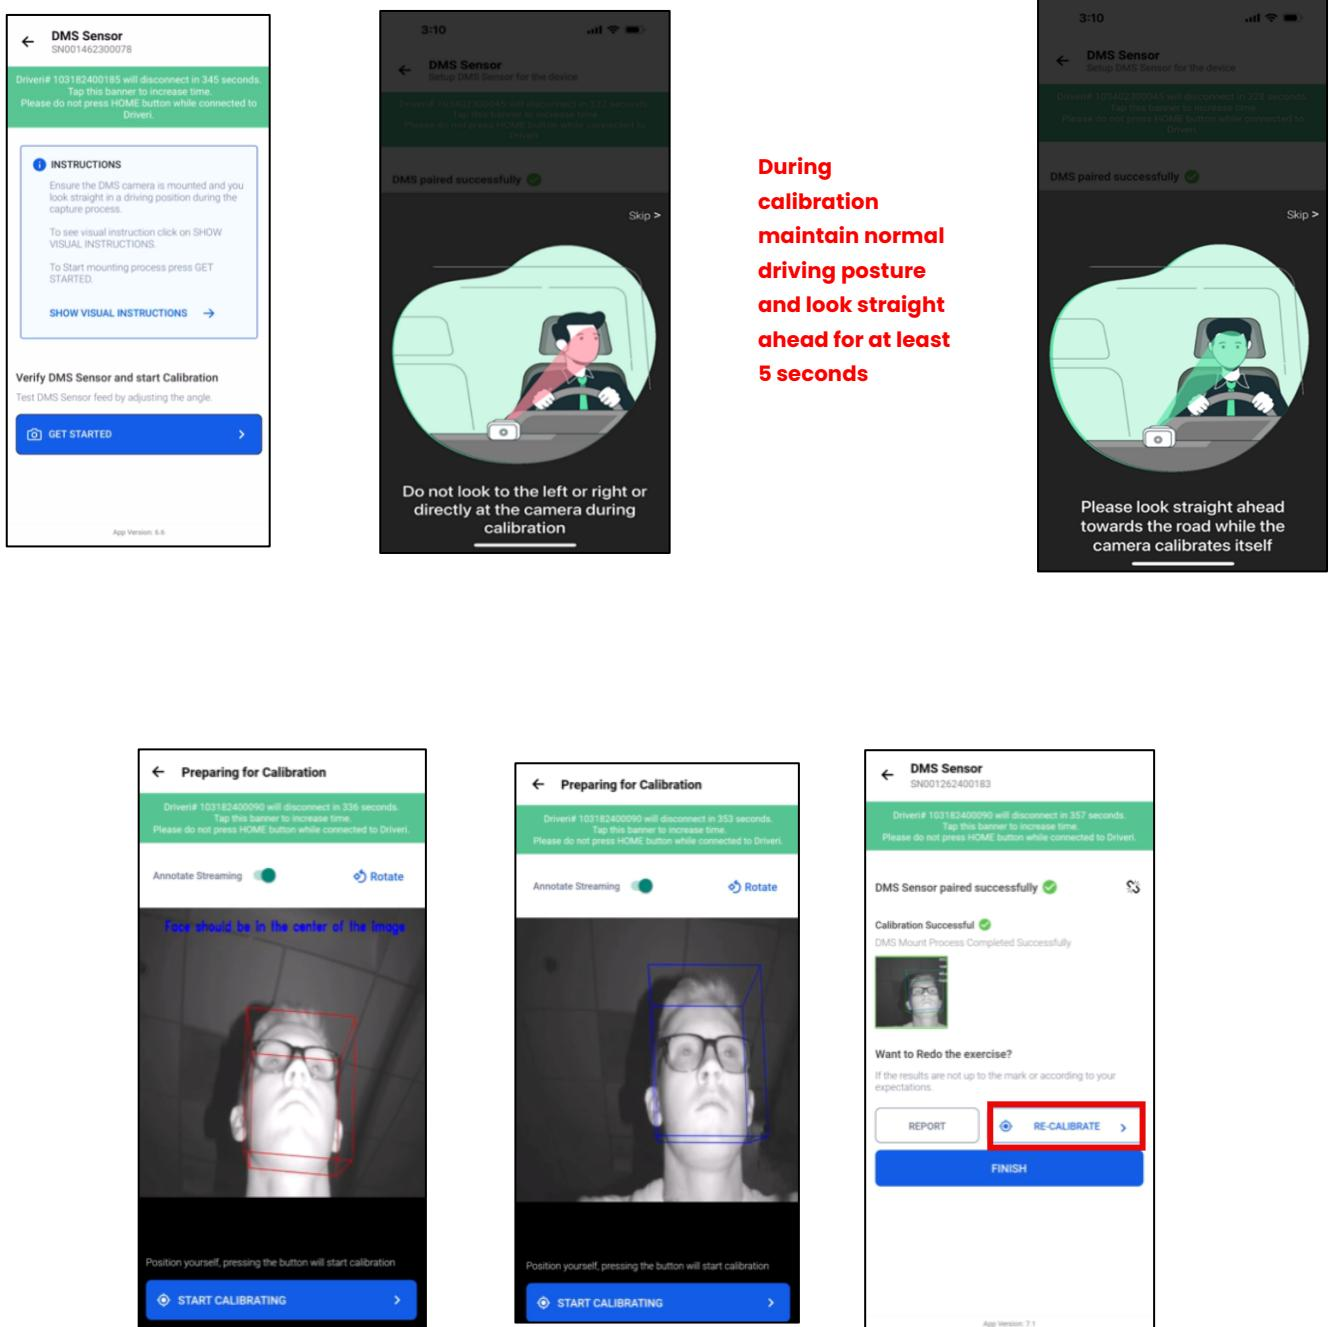

Figure.5
- Adjust the position of the DMS until all four dots representing pitch, yaw, roll, Face, are green, Refer to figure 5.